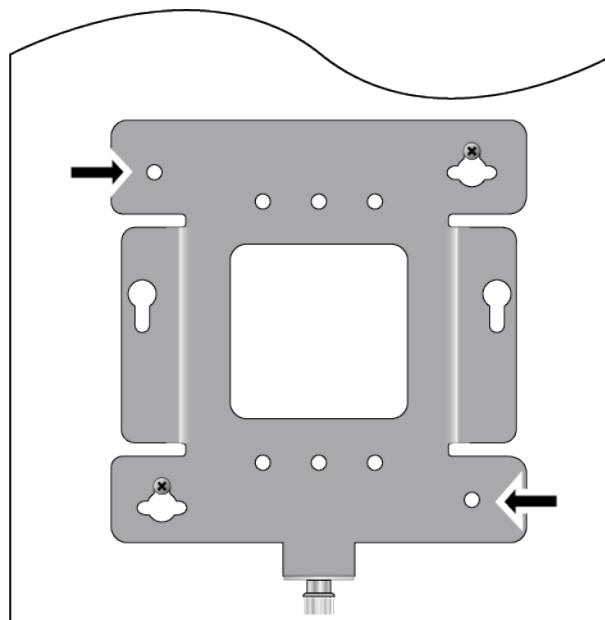

Figure 21. Pre-Drill Holes on Mounting Bracket
8. To secure the mounting bracket, pre-drill holes through the two bracket mounting holes opposite the key-hole slots. See Figure 21.